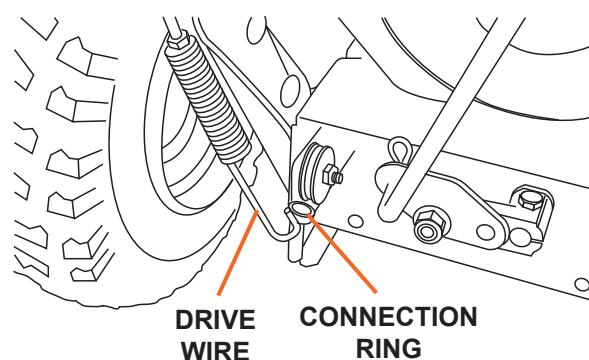

Figure 2
2. Attach the drive wire on the left side of the snow blower (see Figure 2). Remove the R-clip that connects the drive wire to the control lever on the handlebars, then slip the wire off. Attach the other end of the drive wire with the spring mechanism to the connection ring and reattach the drive wire to the control lever reinserting the R-clip. After connecting the wire adjust the tension. The wire should be taught when connected. (See Control Wire Adjustment, page 23 in the Operation Manual).